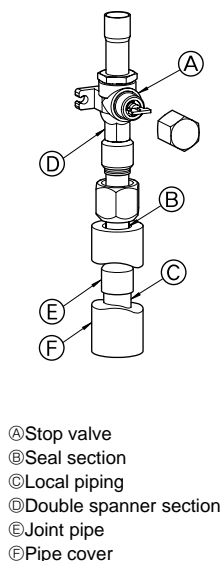

Fig. 4-3
- Ⓒ Use the following procedure for connecting the gas-side piping. (Fig. 4-3)